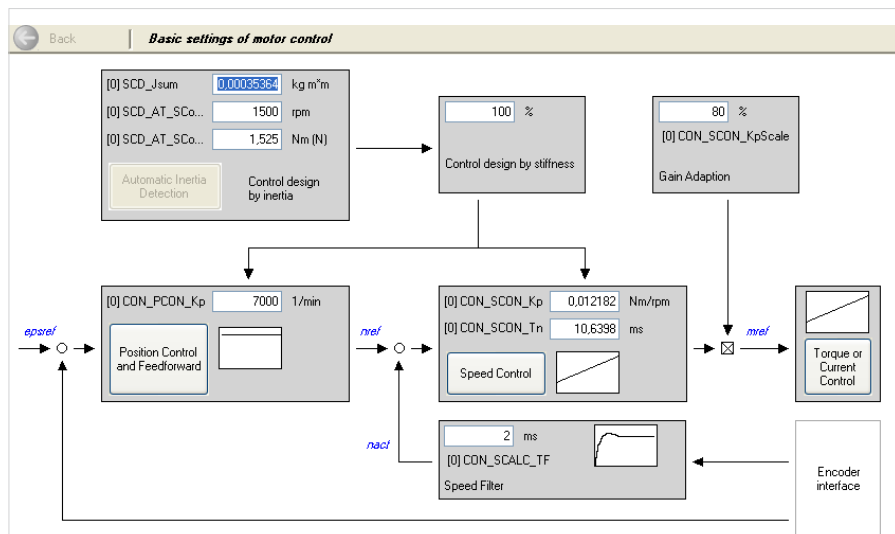

Figure 27 Basic setting screen
- Click the „Basic setting“ button (the screen in figure 27 opens up)